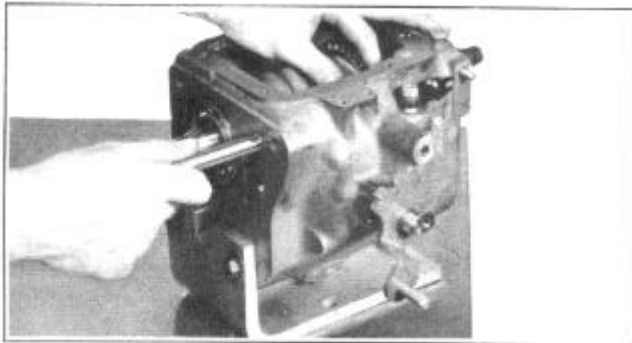

FIGURE 27
2. Place second and high shift fork in groove of synchronizer shift sleeve and while holding the fork in this position, insert the shift rail into case through hole in fork, Figure 27.